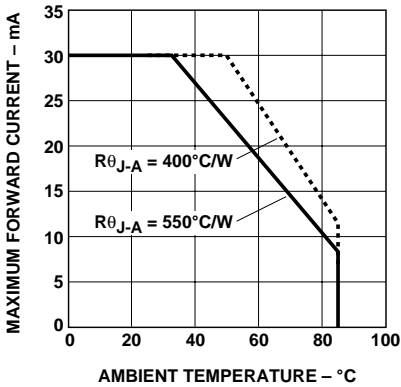

Figure 5. Maximum forward current vs. ambient temperature. Derating based on $T_{JMAX} = 110^{\circ}C$.
1. Derate linearly as shown in Figure 5.